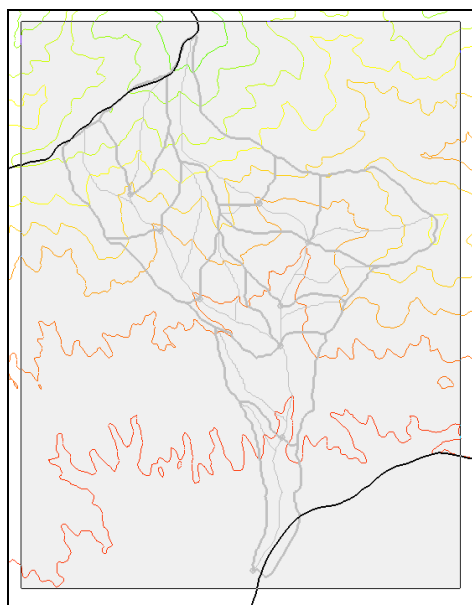

Figure 12 Selecting the watershed extents
10. Using the **Select shapes**  tool, drag a selection box around the watershed extents (Figure 12).